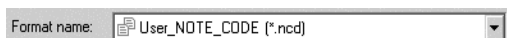

Figure 4-25. Format Name
- Select a user-defined format in the *Format File* field that includes Note and Code columns (Figure 4-25).